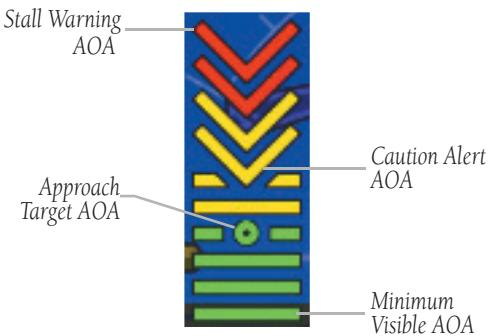
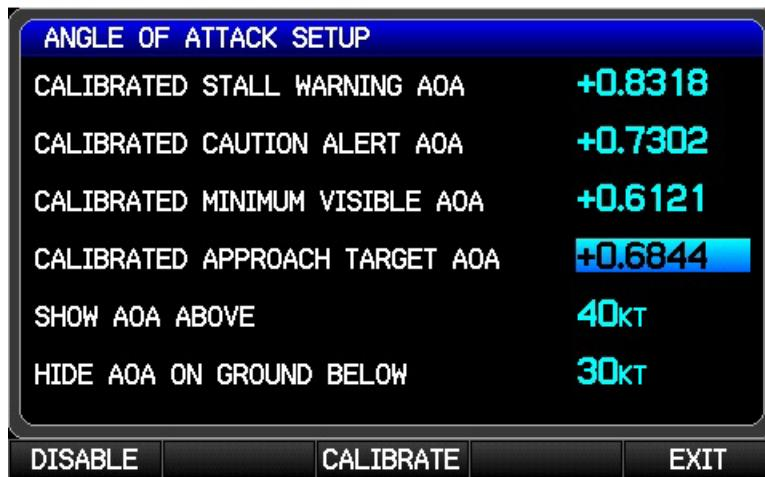

Figure 19-3 Angle of Attack (AOA) Display
Figure 19-5 Angle of Attack Setup Page
Installations that include a GAP 26 and which have Angle of Attack (AOA) enabled require that an AOA calibration be performed to enable AOA functionality. The AOA calibration is used to determine the four AOA settings shown in Figure 19-3. This calibration must be done while in flight. The AOA Setup page (Figure 19-5) on PFD 1 is used for the AOA cal procedure, and is accessed in normal mode (requires that an AOA input is enabled on the LRU Configuration page, see Section 17.3.2).
- The stall warning AOA calibration value (resultant from the calibration procedure) must be greater than the minimum visible AOA calibration value (see Figure 19-5).
- The caution alert AOA calibration value (resultant from the calibration procedure) must be greater than the minimum visible AOA calibration value and less than the stall warning AOA calibration value (see Figure 19-5).